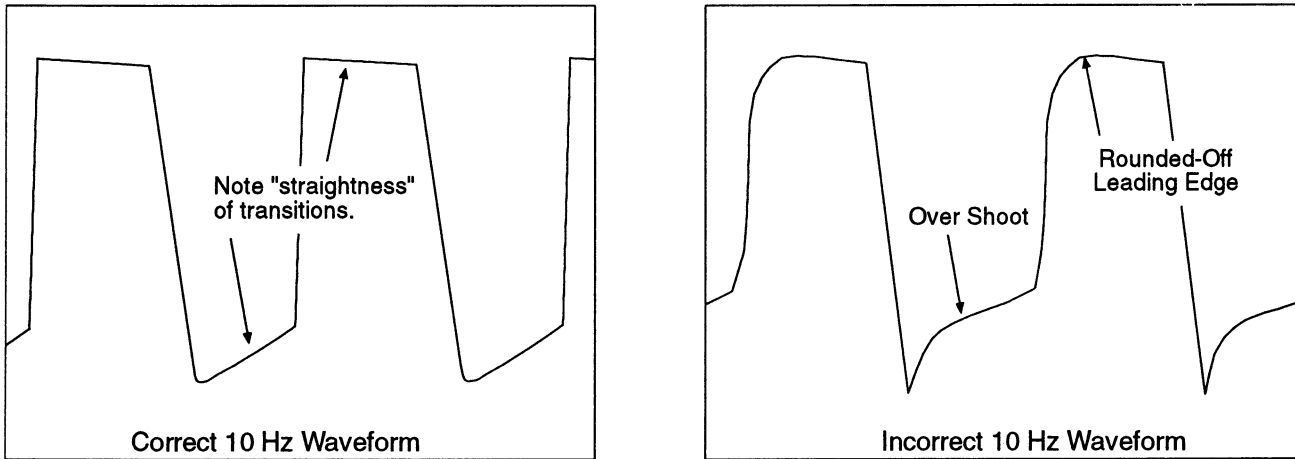

Figure 7. 10 HZ Modulation Compensation Waveform
Step 6. Compare it to Figure 7. Examine the waveform for "straightness" on the long transitions. These long transitions should be as straight as possible. The transition may have a slope, but it should be a constant slope.